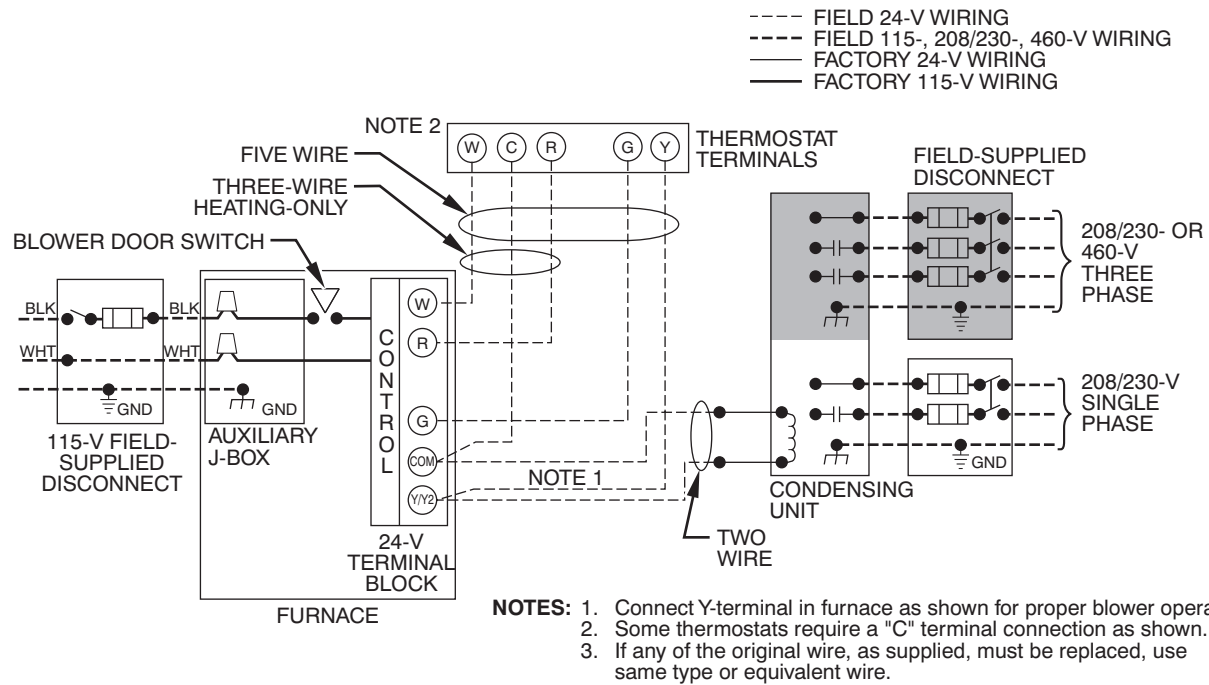

Fig. 34 - Typical Single-Stage Wiring Diagram
7. Connect field power and neutral leads to furnace power leads as shown in Fig. 34.
6. Connect power cord power and neutral leads to furnace power leads as shown in Fig. 34.
5. Connect field power and neutral leads to furnace power leads as shown in Fig. 34.
Make field 24-v connections at the 24-v terminal strip. See Fig. 35. Connect terminal Y/Y2 as shown in Fig. 34 for proper cooling